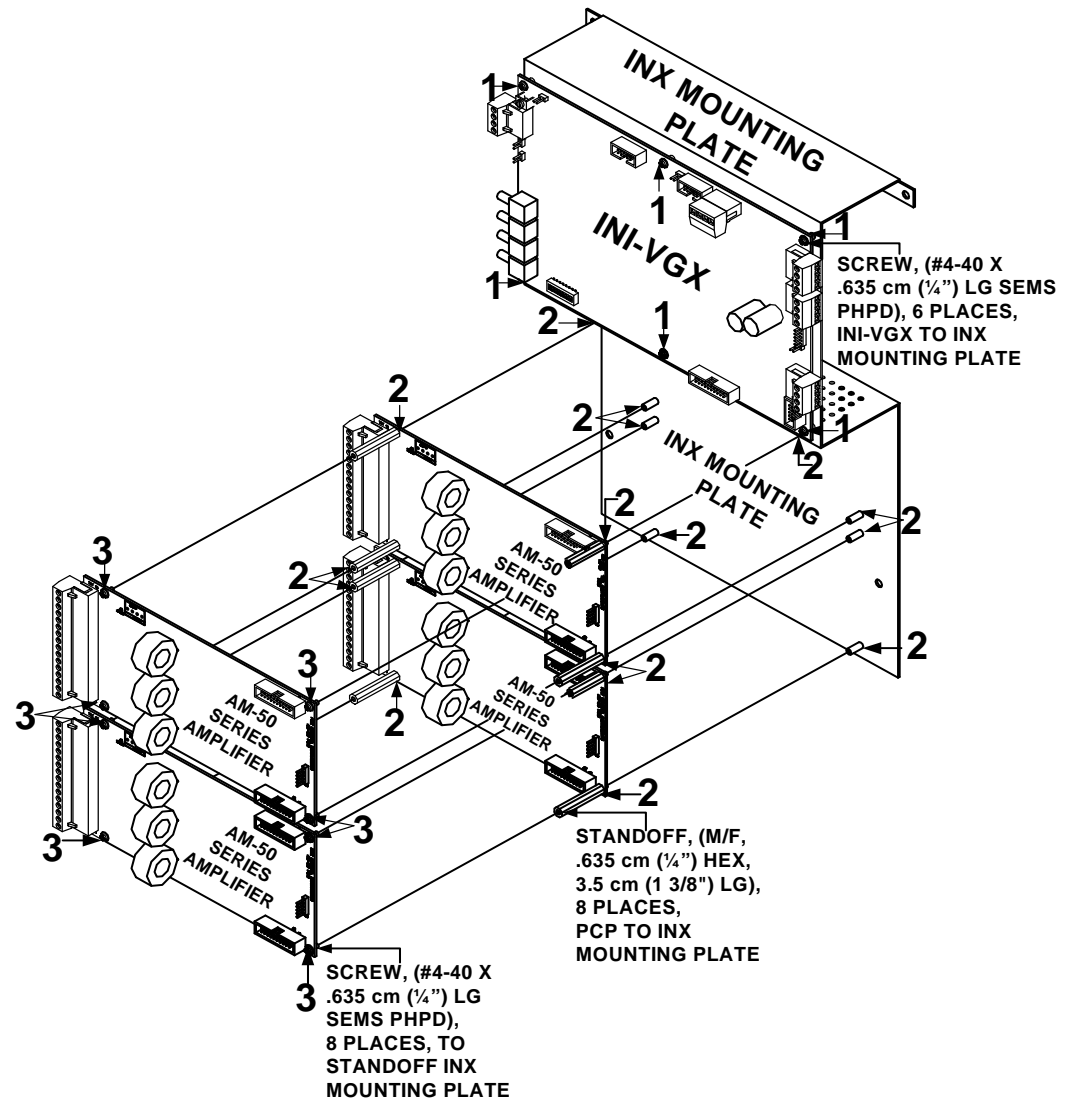

Figure 2.8.3.1 NetSOLO INX Mounting Plate Installation
1. Position the INI-VGX sub-assembly over the six (6) mounting PEM standoffs on the top part of the INX Mounting Plate.
2. Mount the INI-VGX sub-assembly on top of the INX Mounting Plate and secure with six (6) screws, (#4-40 x 1/4" (.635 cm) LG SEMS PHPD) in the six-hole mounting pattern as shown in Location 1 of Figure 2.8.3.1.
5. Mount the first set of the two (2) AM-50 Series amplifiers over the PEM standoffs on the INX Mounting Plate and secure with eight (8), standoffs M/F, .1/4" (.635 cm) HEX, 1.38" (3.5 cm) LG) in the eight-hole mounting pattern as shown in Location 2 of Figure 2.8.3.1
6. Mount the second set of the two (2), AM-50 Series amplifiers on top of the first set of the two (2), AM-50 Series amplifiers, and secure with eight (8) screws, (#4-40 x 1/4" (.635 cm) LG SEMS PHPD) into the eight (8), standoffs as shown in Location 3 of Figure 2.8.3.1.